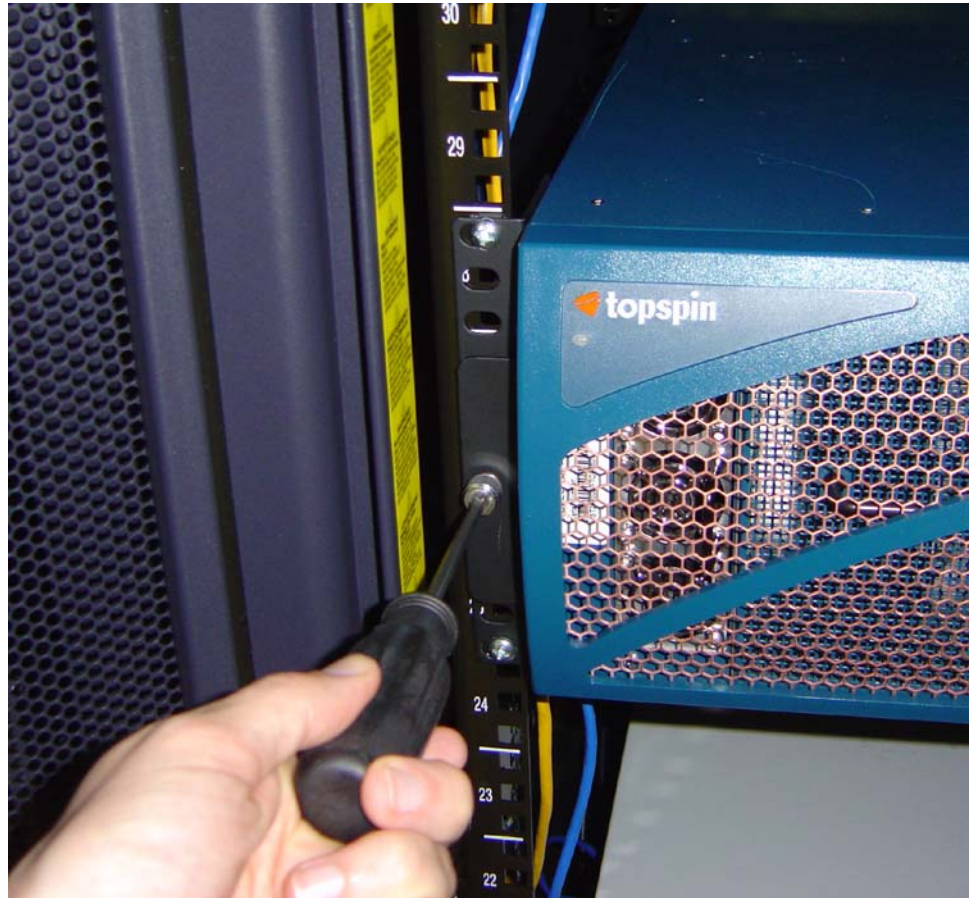

Figure 3-8: Securing the Chassis to the Rails
14. Screw the flange screws tightly into the rails, as shown in Figure 3-8.